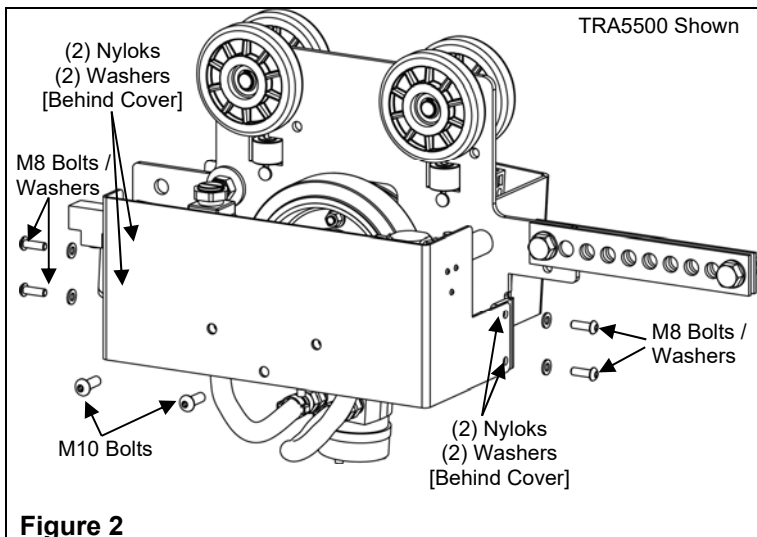

Figure 2
- Step 1. Remove the (2) two M10 front access cover bolts and (2) two Nyloks. (See Figure 2 on page 4)
- Step 2. Remove the (4) four M8 side access cover bolts, (8) eight flat washers, and (4) four Nyloks. (See Figure 2 on page 4)